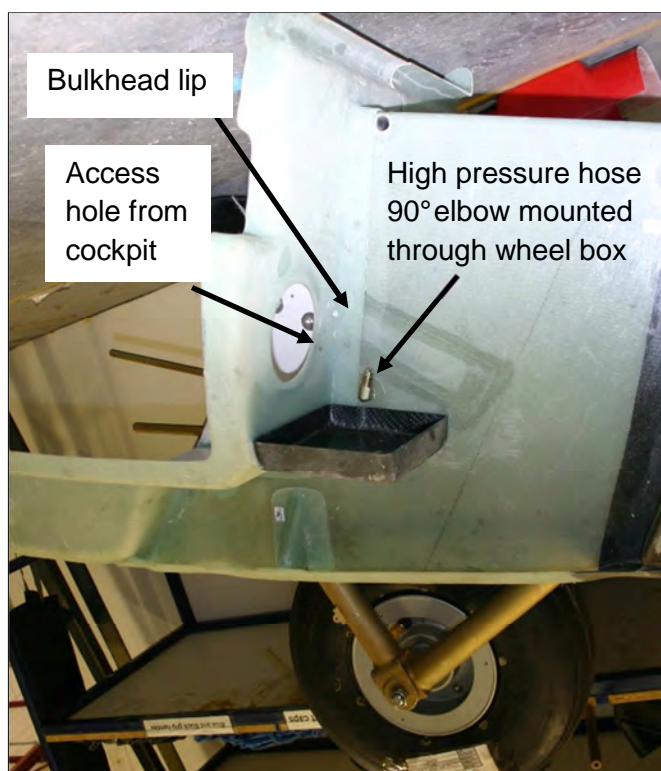

Figure 1: Access to High pressure hose 90° elbow going into wheel box
6. Ensure that the straight side of the high pressure hose 90° elbow (5.3.06 Elbow Male-Male Long: 6J9-0404) is parallel to the bulkhead lip, facing toward the top of the glider as depicted in Figure 1. Do not remove or loosen any hoses from the access hole side.